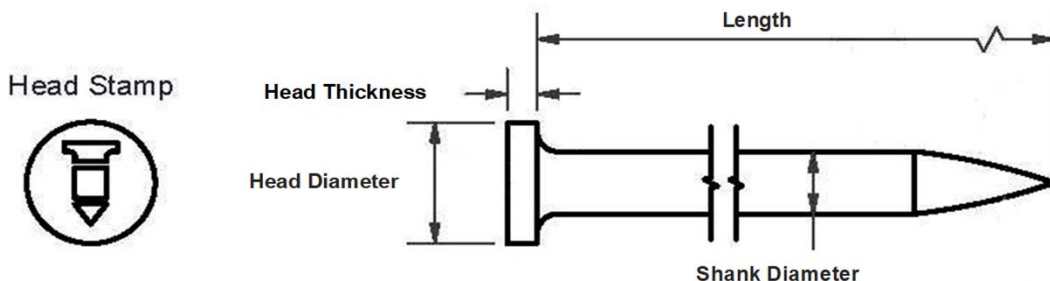
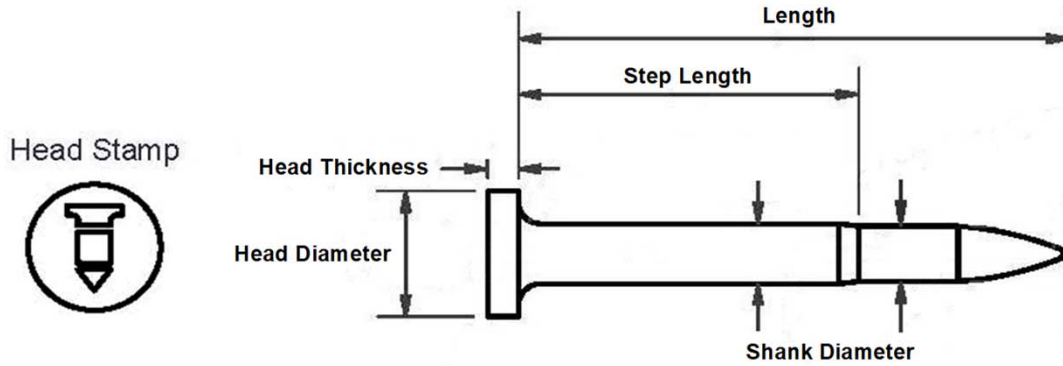

Figure 1 - Profile of Approved Smooth Pins per Table 2
Figure 2 - Profile of Approved Smooth Step Pins per Table 3
The **SurePin®** Fasteners are designed with a smooth shank or smooth step shank profile and a ballistic end point. The pins are manufactured per the nominal dimensions shown in Table 2 and Table 3 of this evaluation report. The pins are identified by the **Aerosmith** logo head stamp shown in Figure 1 and Figure 2 of this evaluation report. The pins are collated for powered nail gun application.
6. A Trademark head stamp by **Aerosmith** as shown above in Figure 1 and Figure 2